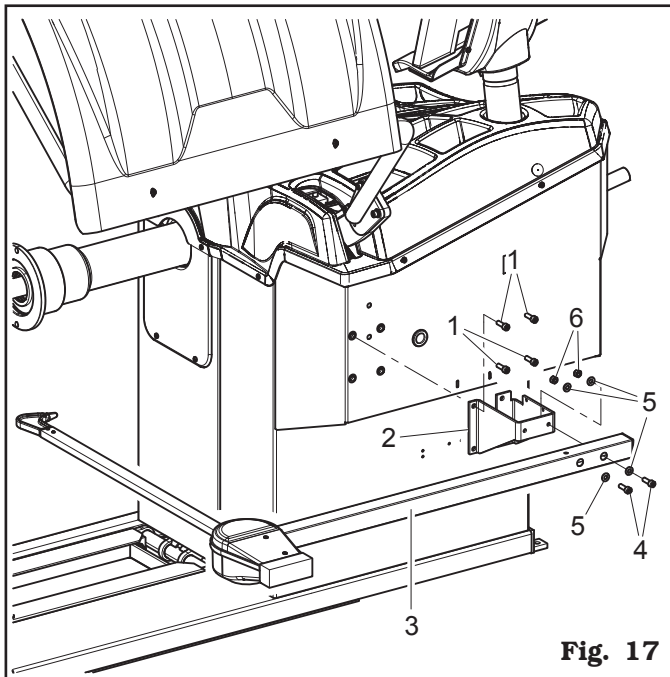
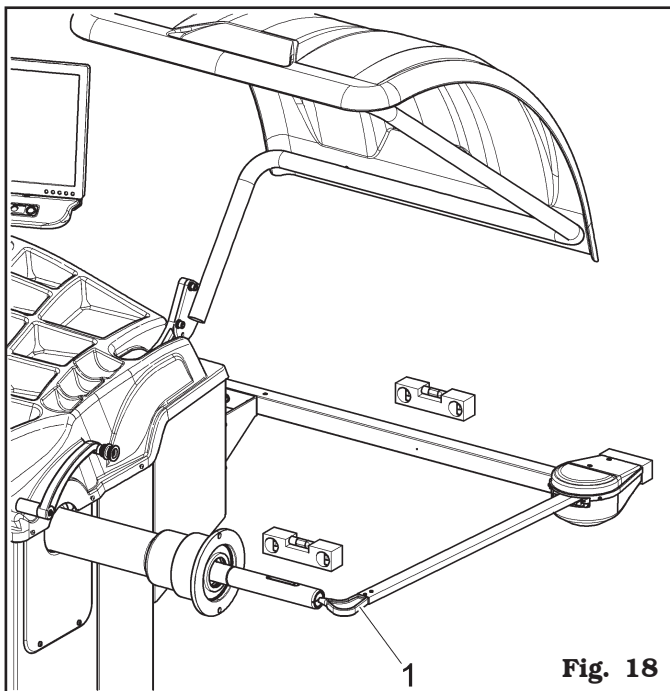

Fig. 17
Fig. 18
1. Introduce the 4 screws (**Fig. 17 ref. 1**) in the gauge bracket (**Fig. 17 ref. 2**) and screw them on the threaded rivets placed on the rear side of the frame. Lock the gauge arm (**Fig. 17 ref. 3**) to the bracket (**Fig. 17 ref. 2**) using the 2 screws (**Fig. 17 ref. 4**) and the washers (**Fig. 17 ref. 5**). Lock the screws (**Fig. 17 ref. 4**) with the washers (**Fig. 17 ref. 5**) and the nuts (**Fig. 17 ref. 6**) so that the shaft and the gauge arm are levelled out (see **Fig. 18**).
2. Also make sure the gauge tip (**Fig. 18 ref. 1**) is positioned at the centre of the mandrel.